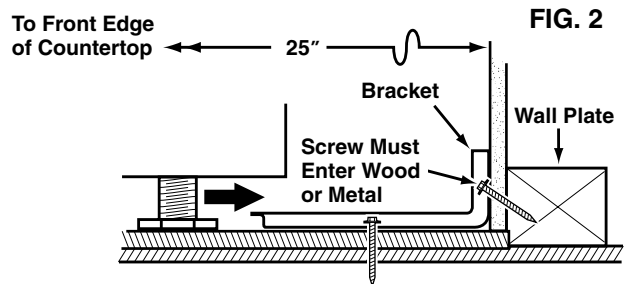

FIG. 2
**B** Drill a 1/8" pilot hole through the pre-marked areas. Note the angle of the wall screw in Fig. 2.